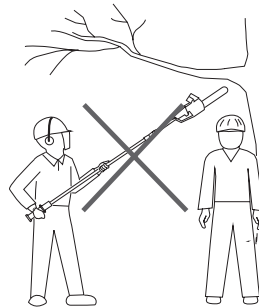

Fig. 36
7. Keep other persons away from cutting end of product and at a safe distance from the work area. Maintain a minimum distance of 10 m to bystanders (Fig. 36).